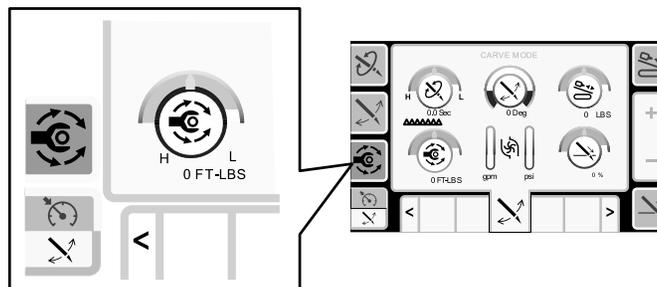

Figure 13
**Note:** The icon turns green and a green circle highlights the option you select (Figure 13).